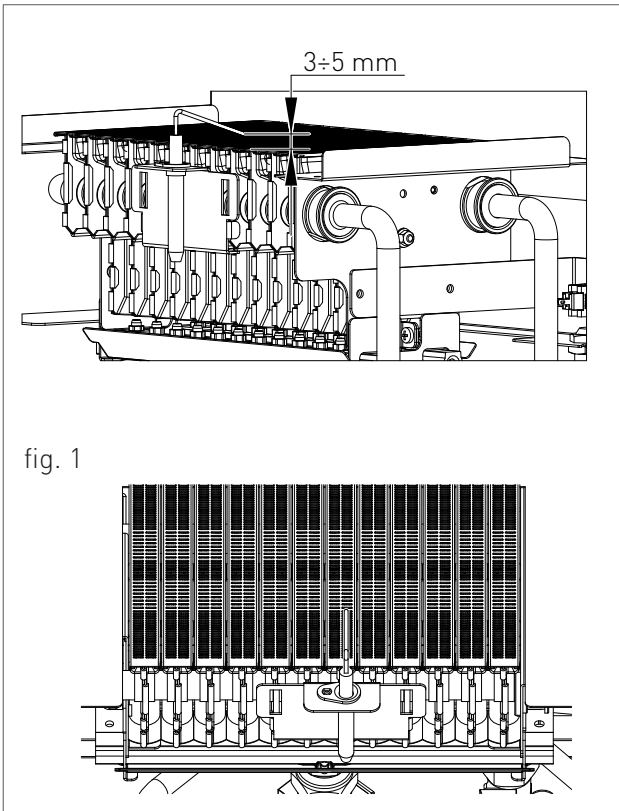

fig. 1
Check that the electrode is positioned at the right distance from the burner and with the correct inclination, see fig. 1.
In order to carry out transformation, proceed as follows (see fig. 1):
4. replace the burner manifold '2' (fig. 1) with the new gas type manifold (kit code 65-00921 for Natural Gas and Kit code 65-00920 for L.P.G.);
5. replace the air deflector 'B' (fig.1) with the new gas type air deflector, under the manifold '2' and tight the gas connector '1'.